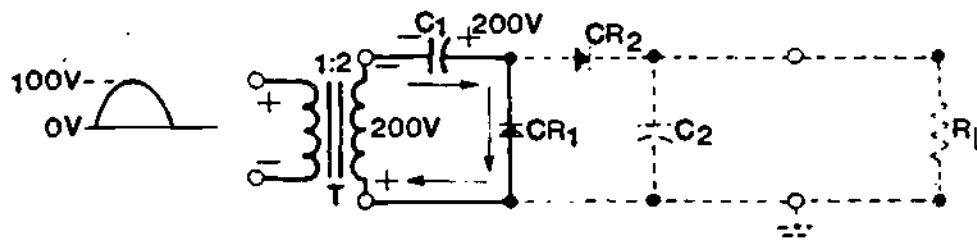

figure 7
7. The half-wave voltage doubler shown in Figure 7 is made up of two half-wave voltage rectifiers. C1 and CR1 make up one half-wave rectifier and C2 and CR2 make up the other rectifier. To help you understand the schematic, one of the half-wave rectifiers is shown with solid lines and the other with broken lines.
8. Look at the schematic shown in Figure 7. Notice that the top of the secondary is negative (-) and the bottom is positive (+). During this time CR1 is forward biased and functions as a closed switch allowing C1 to charge to the peak value of the input voltage or 200 volts.